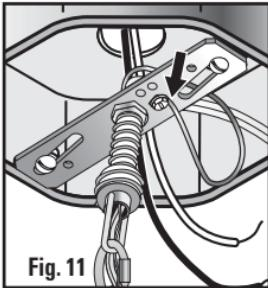

Fig. 11
**For safety and proper operation, your fixture must be properly grounded (Fig. 11).** If you are unfamiliar with the methods of properly grounding your fixture, consult a qualified electrician. A copper ground wire is pre-attached to your fixture pan. If your electrical box is made of plastic and/or has a green or bare copper grounding wire inside, the fixture grounding wire and the electrical box ground wire should be connected together using one of the wire nuts (included). If your electrical box is made of metal is already grounded, you simply secure the bare end of the fixture ground wire to the crossbar using the green grounding screw on the crossbar.